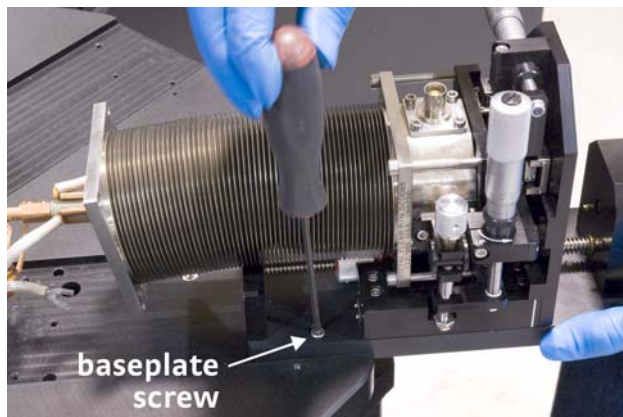

FIGURE 5-7 Secure micro-manipulated stage to its holding location
7. Slide the stage back, and use the 3 mm hex driver to secure the stage to its holding location with two M4 screws (FIGURE 5-7). This is an optional step, and is given to provide you with a convenient work space.